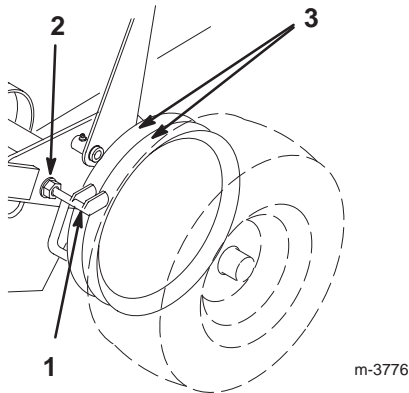

Figure 47
1. Loosen the locknut that holds the scraper to the engine frame (Fig. 47).
2. Rotate the scraper until it aligns with the center of the pulley grooves (Fig. 47).
3. Tighten the locknut (Fig. 47).